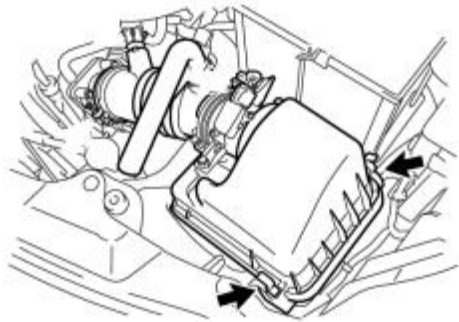

Fig. 2-1
- (a) Unlatch the two air filter housing clips (Fig. 2-1 through Fig. 2-3).
- (d) Re-latch the two air filter housing clips (Refer to Fig. 2-1 through Fig. 2-3).